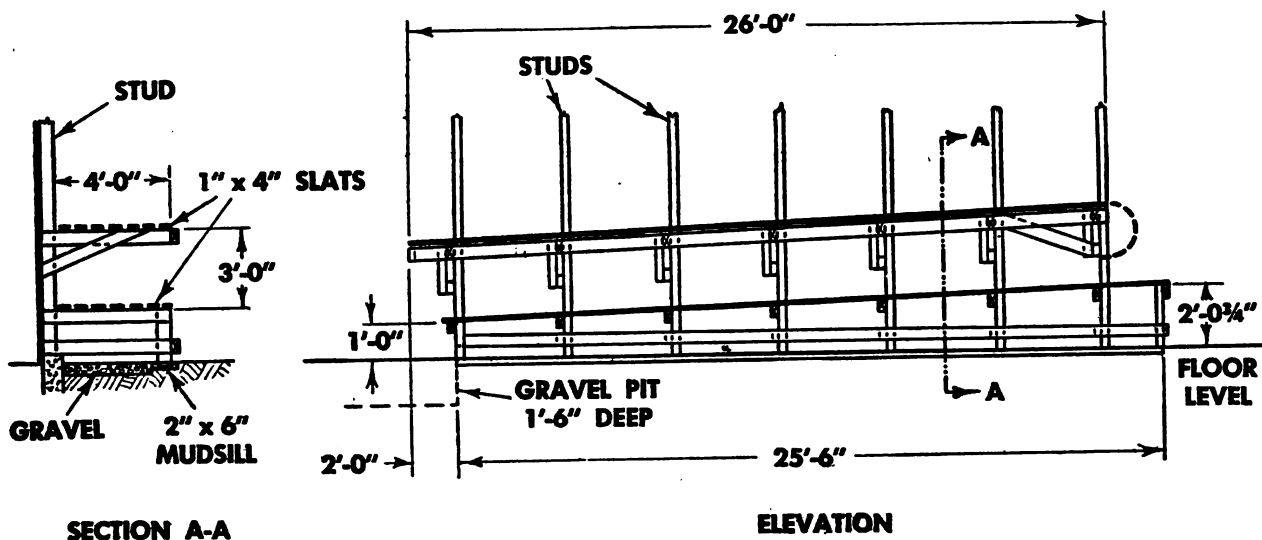

Figure 42. Hose drying rack. (Lower rack is 2 feet shorter than upper rack so drippings from hose on upper rack cannot fall on hose below.)
a. **WASHING.** (1) Lay hose on a clean surface and brush all dirt and foreign matter off jacket.
(2) If hose is spotted with oil, dip it in cold water to set the oil, wash with mild soap, then rinse thoroughly with clean water. Do not use strong soaps or chemicals.
(3) While washing, look for damaged jackets and couplings. Set aside and tag damaged sections for closer inspection.
b. **DRYING.** (1) *Rubber-lined hose.* Place rubber-lined hose on drying rack (fig. 42), making sure that ends of hose on upper rack do not drain onto ends of hose below. Change position of hose frequently so parts touching the rack can dry. Keep